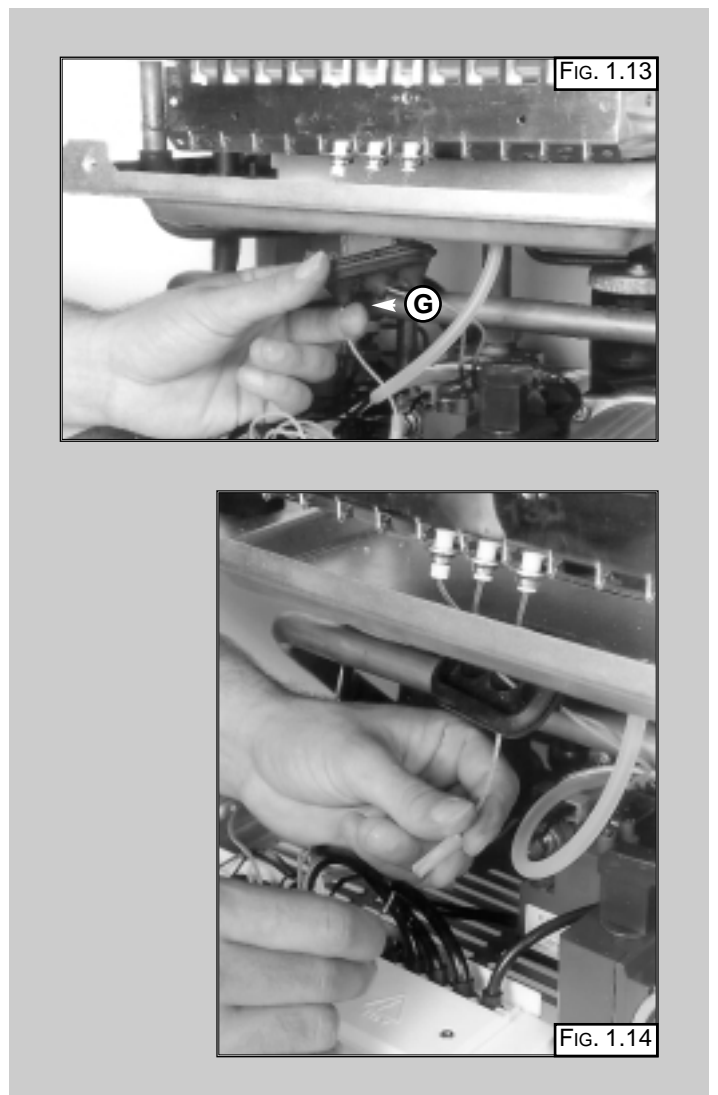

FIG. 1.15
3. Remove screw "H" (FIG. 1.15);